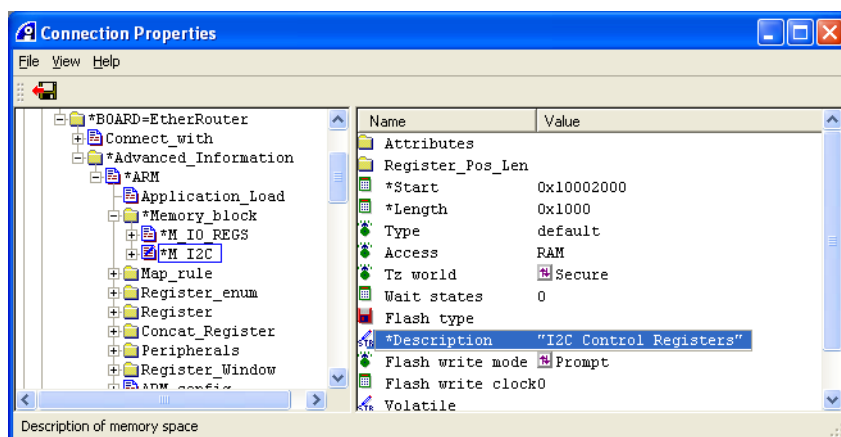

Figure 5-10 Configuring the M\_I2C custom register
- d. Set Description to **I2C Control Registers**, shown in Figure 5-10 on page 5-17.